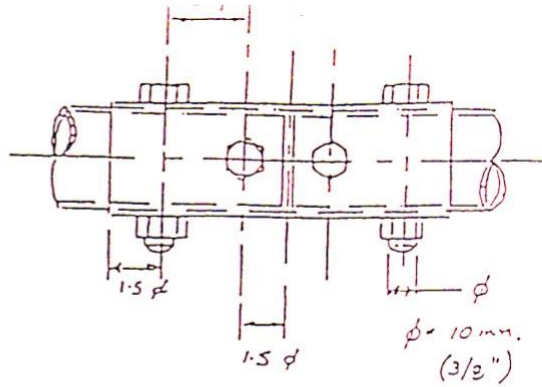

FIG 2
- F. Muff connections as in fig 2 may be used.